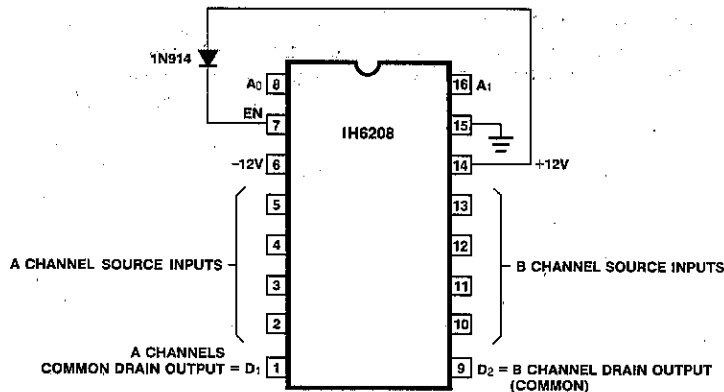

Figure 6. IH6208 Connection Diagram for less than $\pm 15V$ Supply Operation.
Caution must be taken to ensure that the enable (EN) voltage is at least 0.7V below V^+ at all times. If this is not done the Address input strobing levels will not function properly. This may be achieved quite simply by connecting EN (pin 2) to V^+ (pin 14) via a silicon diode as shown in Figure 6. A further requirement must be met when using this type of configuration; the strobe levels at A0 and A1 must be within
2.5V of the EN voltage in order to define a binary "1" state. For the case shown in Figure 6 the EN voltage is 11.3V, which means that logic high at A0 and A1 is = +8.8V (logic low continues to be = 0.8V). In this configuration the IH6208 cannot be driven by TTL (+5V) or CMOS (+5V) logic. It can be driven by TTL open collector logic or CMOS logic with +12V supplies.